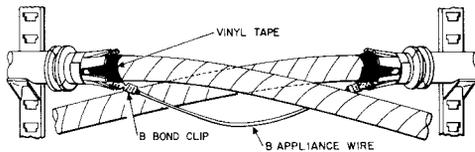

Fig. 16—B Bond Clips and B Temporary Bond Wire Installed
3.11 Shield continuity across the splice opening will be maintained during splicing by the use of B bond clips and B appliance wire (Fig. 16). The method of preparing, installing, and pressing the clips is covered in Section 081-852-120. The B appliance wire must be of sufficient length not to interfere with the splice bundle.